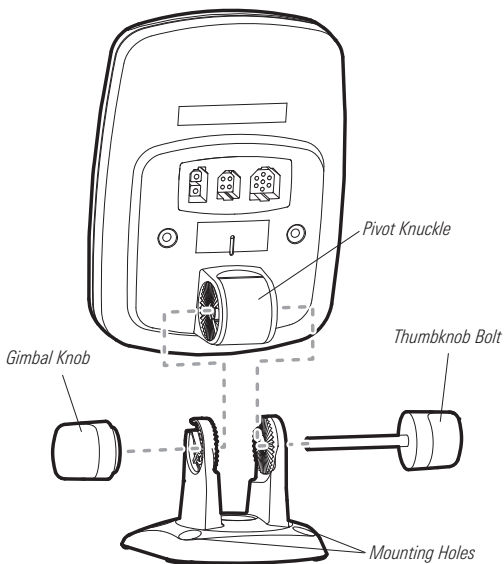

Figure 7
4. Insert the thumbknob bolt through the pivot knuckle on the control head (Figure 7).